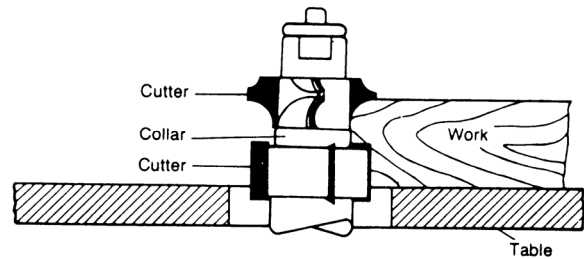

Figure 18
3. The collar between cutters method, shown in Figure 18, has both the advantages and disadvantages of the first two methods. This method is used primarily where both edges of the work are to be shaped.